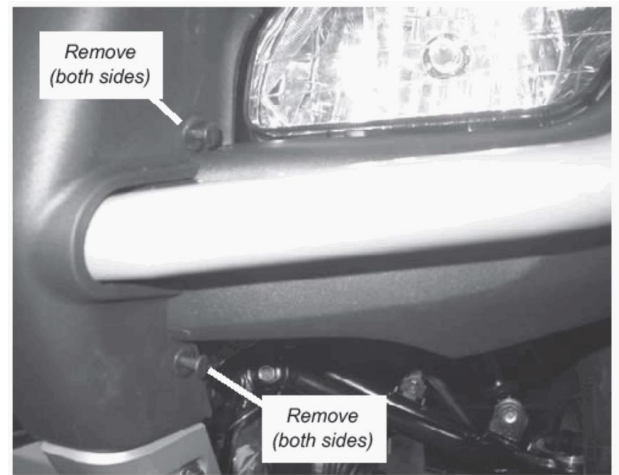

Figure 2 Remove the Four Plastic Rivets
2. Remove the (4) plastic rivets on each side of the front plastic fascia, “Figure 2”. Use a large screwdriver to carefully remove the center rivet. After removing the center rivet, remove the rivet housing.